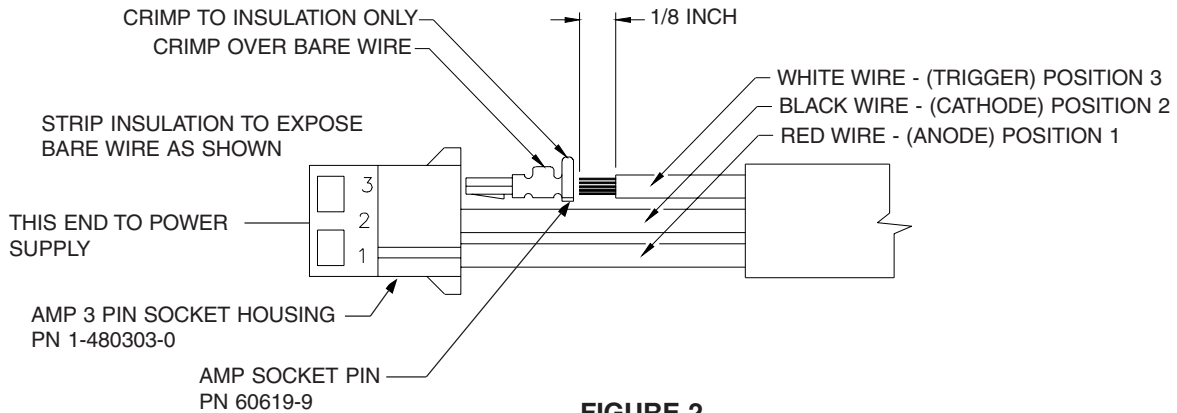

FIGURE 2
2. After the cables have been properly routed for each strobe head they will have to be terminated with the three pin AMP socket housings provided. The cables are factory terminated with the proper AMP crimp pins for insertion into the housings, see Figure 2. If there is a need to re-terminate any wires, Figure 2 also includes stripping and crimping information.